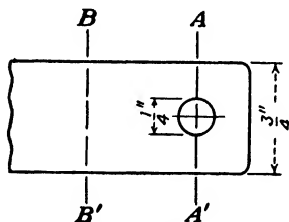
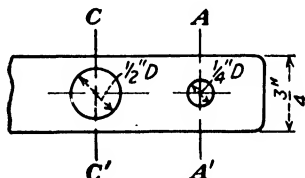

Fig. 225.
Fig. 226.
1. Using Table 12, find the tensile strength of the fitting in Fig. 225, (a) at section  $BB'$ , (b) at section  $AA'$ . The material is  $\frac{1}{8}$ -in. low-carbon steel.
2. Suppose that a  $\frac{1}{2}$ -in. hole were drilled by a careless mechanic in the fitting in Fig. 225. What is the strength of this fitting in Fig. 226 now?